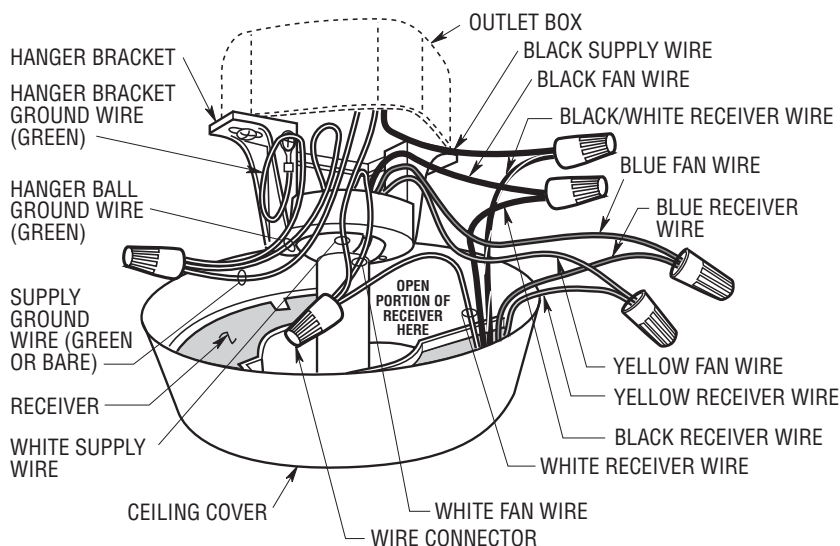

Figure 14
1. Pull the wire leads, coming from the end of the downrod, and the supply wires through the open side of the hanger bracket. (Figure 14).
2. Position the SW105 Receiver (supplied) in the ceiling cover so that the flat side of the receiver faces up and the open portion of the receiver is to the right, as shown in Figure 14.
3. Using wire connectors (supplied), make wiring connections as follows (Figure 14 and 15):